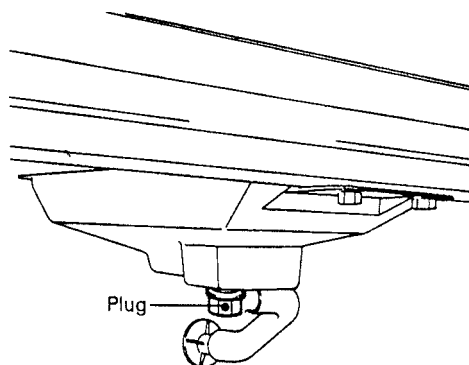

Fig. 2
- 6) Remove the plug at the bottom of the water tank to drain the water tank. See Fig. 2.